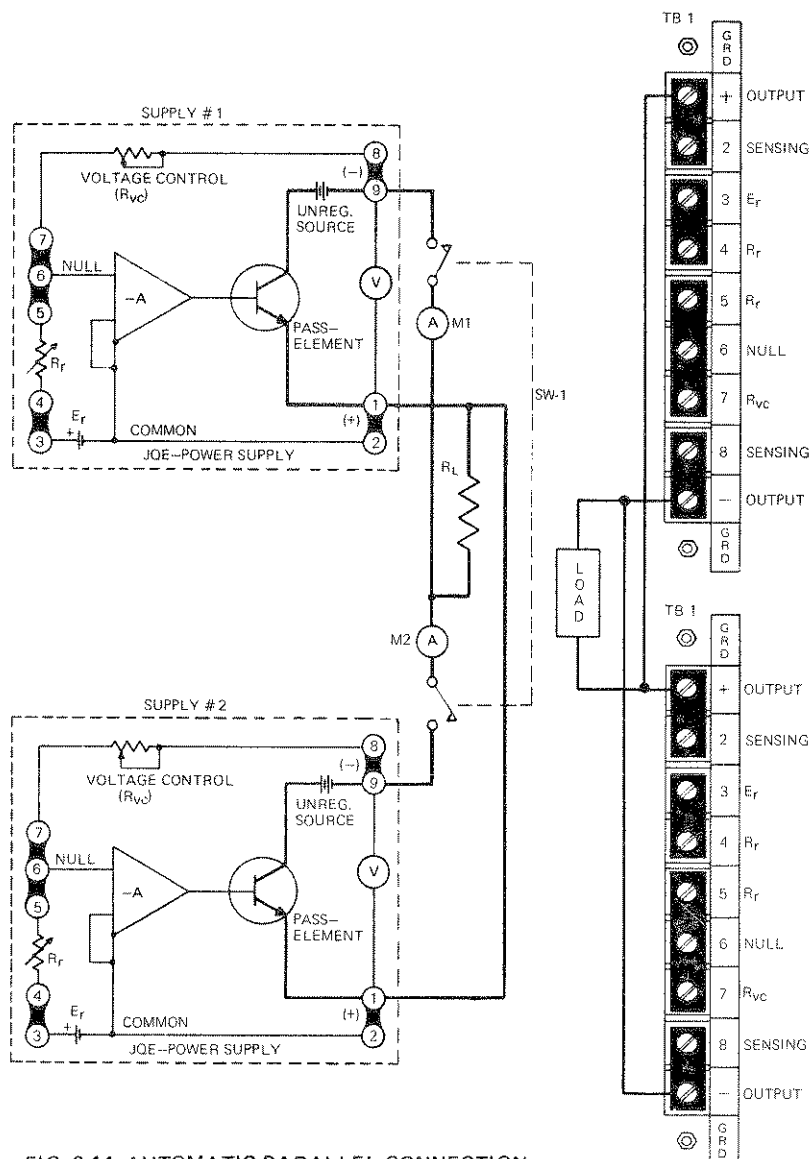

FIG. 3-14 AUTOMATIC PARALLEL CONNECTION OF JOE POWER SUPPLIES
3-43 PROCEDURE (Refer to FIG. 3-14)
- a) Connect units as shown in FIG. 3-14. Open SW-1 and connect to line.